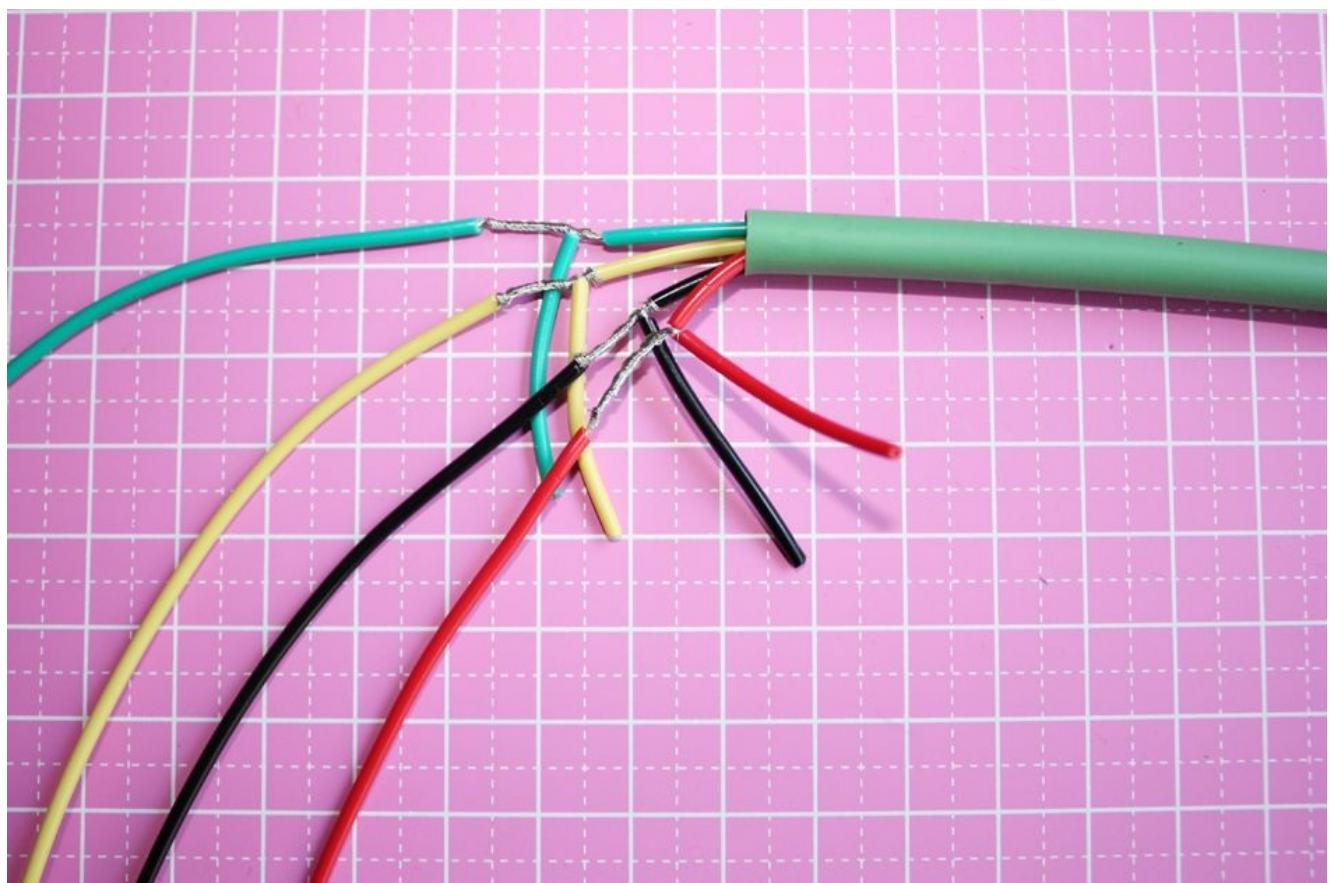

Figure 8-7. Three-way wire join
4. For each color of wire, create a three-way join to attach the main wires (the 34 cm wires) with the branch wire (the 4 cm wire). Place the short length in parallel with the existing wire so that the stripped wires are pointing in the same direction and twist them together, then use an inline splice to join those wires with the 34 cm length of wire that you just cut, as shown in Figure 8-7.